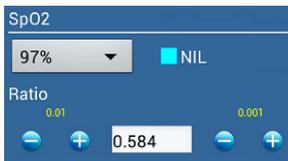

Figure 101
- The dropdown menu contains a list of **SpO2%** readings that each correspond to a calibration point. For example, in *Figure 101*, the active calibration point is 97% and its associated **Red/Infrared (R/IR) Ratio** is 0.584.